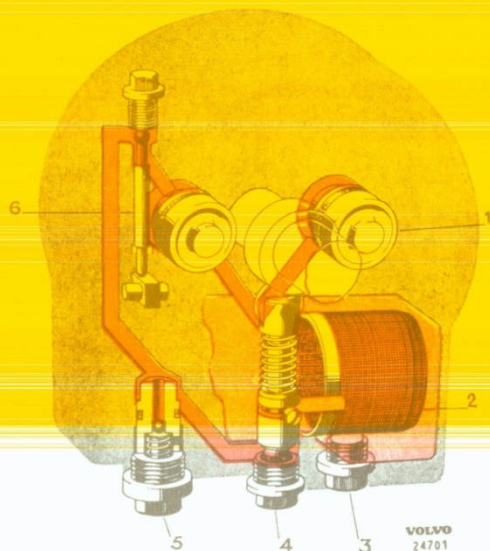

Fig. 3-37. Hydraulic system
There is a plunger type pump in the overdrive (4, Fig. 3-37) which is driven by a cam on the mainshaft.
The oil strainer should be cleaned at every oil change. First drain off the oil by removing the plug (3, Fig. 3-37, marked "Drain") under the oil strainer. Cleaning should then be done as follows:
5. The pump and pump valve are fitted in the reverse order to removing. Check that the gasket for the plug (4, Fig. 3-37) is intact. Fill up with oil.